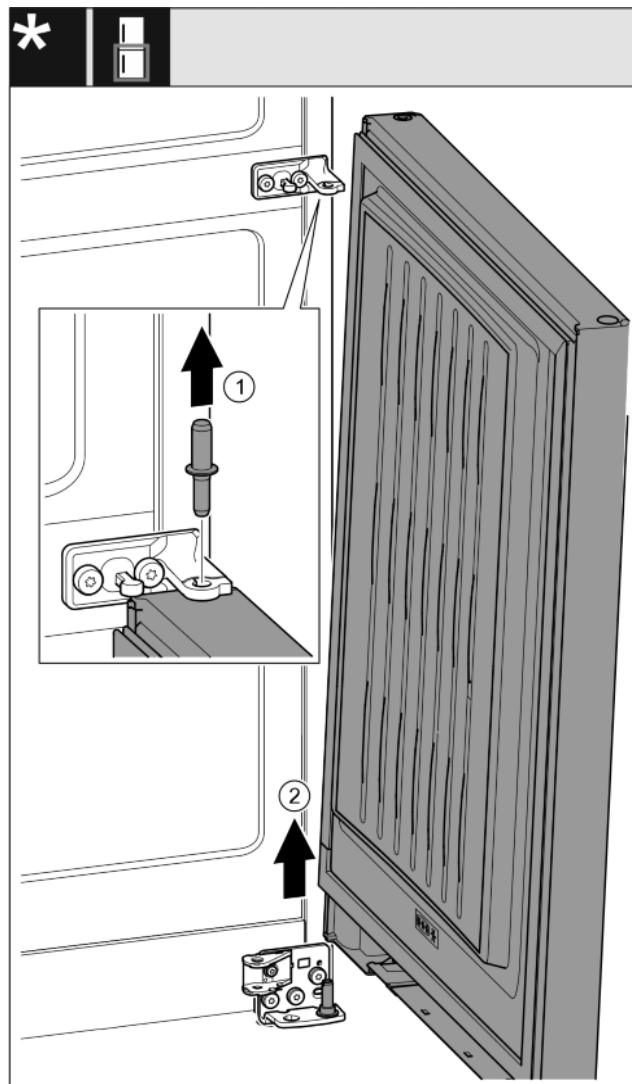

Fig. 19*
- Pull out the bolts upwards.* Fig. 19 (1)
- Swing the door out, pull it upwards and set it aside.* Fig. 19 (2)